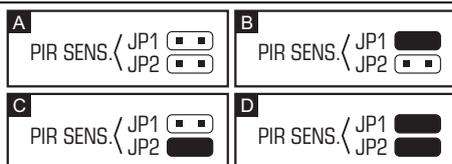

Fig. 2. Setting the detector sensitivity (A – low sensitivity, B and C – medium sensitivity, D – high sensitivity) [■ – pins shorted; □ – pins open].
- PIR SENS** – setting detector sensitivity (see Fig. 2);